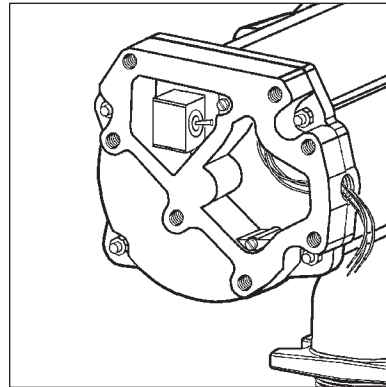

Figure 2
- Remove electrical coverplate (Figure 2). Install conduit and cable from switchbox to pump electrical box. Wiring must be in accordance with Class I, Division 1 requirements in the applicable national electrical code.